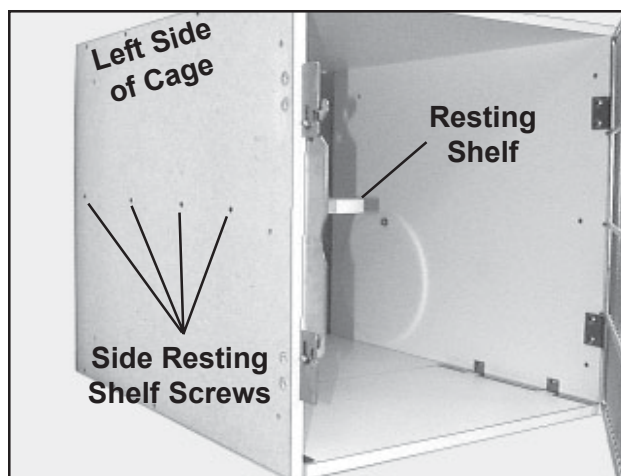

Figure 48. Resting Shelf Screws on Left Side of Cage
4. With the resting shelf still supported, use a Phillips screwdriver to remove the four resting shelf screws on the left side of the cage (Figure 48). When the shelf comes free, do not allow it to fall onto the cage floor and possibly mar the surface.
Note: Figure 48 shows a cage whose door has been reversed to hinged-right configuration. All Kitty Suite cages have the resting shelf on the left wall.
5. With a second person holding the new resting shelf in place at a right angle to the cage wall, install the four screws removed in *Step 4* through the wall and into the shelf (Figure 48).